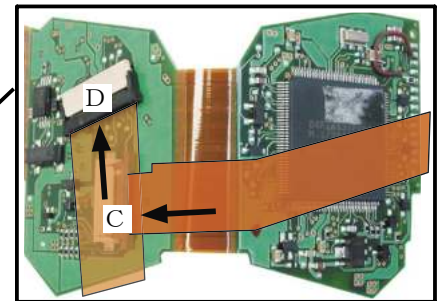

Fig.3
- ③ Solder 3 lead wires. (Fig.3)